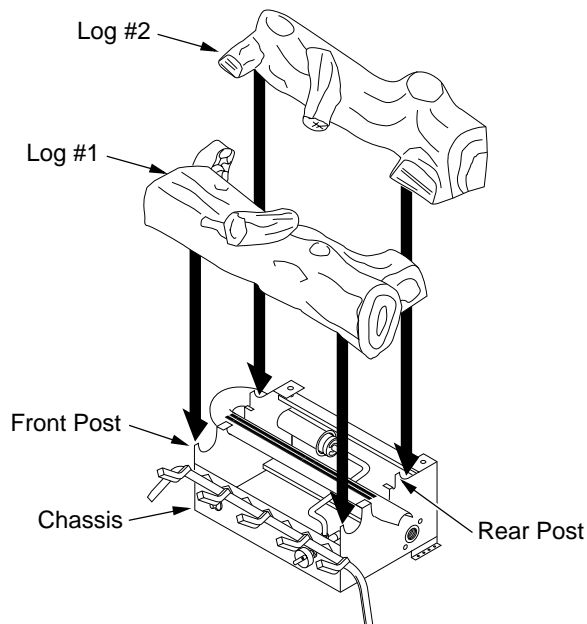
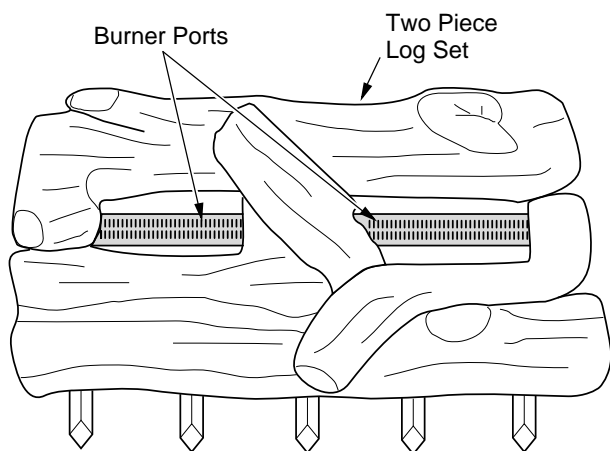

Figure 22 - Installing Vintage Oak Two-Piece Log Set
Figure 23 - Installing Vintage Oak Two-Piece Log Set (Top View)
1. Place front log on top of the grate and over front posts on chassis (see Figure 22, page 15).
2. Place rear log on rear of chassis (see Figure 22, page 15). Slide log forward so that it sits against rear posts on chassis. **IMPORTANT:** Make sure logs do not cover any burner ports (see Figure 23, page 15).